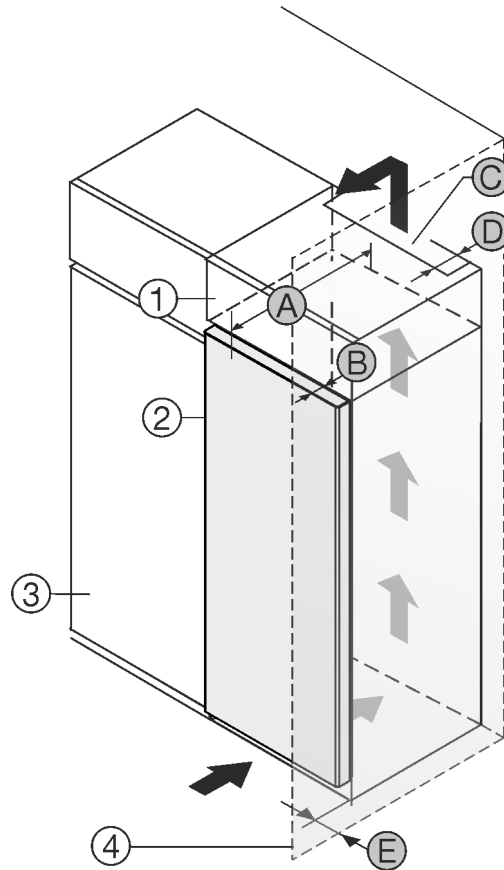

Fig. 1
- (1) Top cupboard
- (2) Appliance
- (3) Kitchen cabinet
- (4) Wall
- (A) Appliance depth
- (B) Door depth
- (C) Ventilation cross-section
- (D) Distance to the rear of the appliance
- (E) Distance to the side of the appliance
Set up the appliance directly next to the kitchen cabinet Fig. 1 (3).
There must be a ventilation shaft at the depth Fig. 1 (D) of the back of the top cupboard over the entire width of the top cupboard.
The cross section of the ventilation gap Fig. 1 (C) must be maintained below the ceiling.
If the appliance is installed with the hinges next to a wall Fig. 1 (4), the distance between the appliance and the wall must be at least 13 mm.
If the appliance is installed with the hinges next to a wall Fig. 1 (4), the distance between the appliance and the wall must be at least 20 mm.
In order to be able to fully open the door, the appliance must protrude by the depth Fig. 1 (B) of the door from the front of the kitchen cabinet. Regardless of the depth of the kitchen cabinets Fig. 1 (3) and use of wall spaces, the appliance can protrude further.